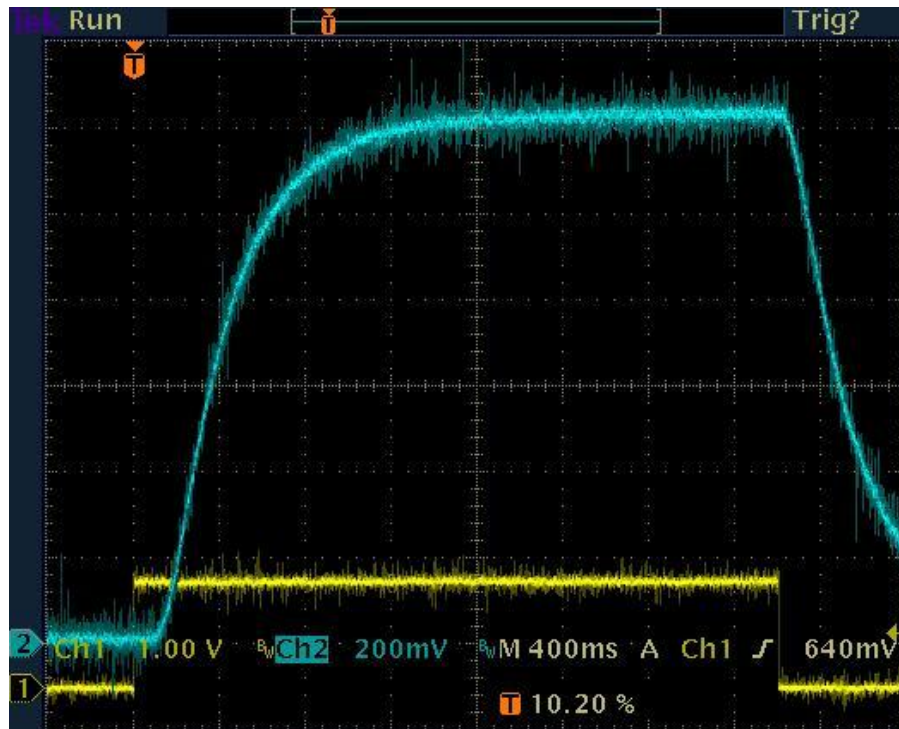

Figure 2 – Typical MFC Response (control signal in yellow, flow read in blue)
7. If the response of the MFC appears too slow, too fast, or irregular, the control and readback signals can be monitored with an oscilloscope. Figure 2 below shows typical response for a 0 to 25% full scale step control input (0V to 1.25V) for a new 5 SLPM rated MKS M100B. For this model, MKS specifies settling time to be no more than 2 seconds for a change from 0 to anything from 25% to 100% of full scale settled within 2% of final value. The control signal should cycle between 0 and 1.25V for 3-5 seconds at each value and the reading should be taken after a few cycles. As seen in Figure 2, the MFC required about 1.2-1.6 seconds to reach 98% of the final value, so it is performing according to MKS specifications. Note that for a step change from 0 to less than 25% of full scale, the response time of the MFC increases significantly as flow is reduced and is strongly dependent on